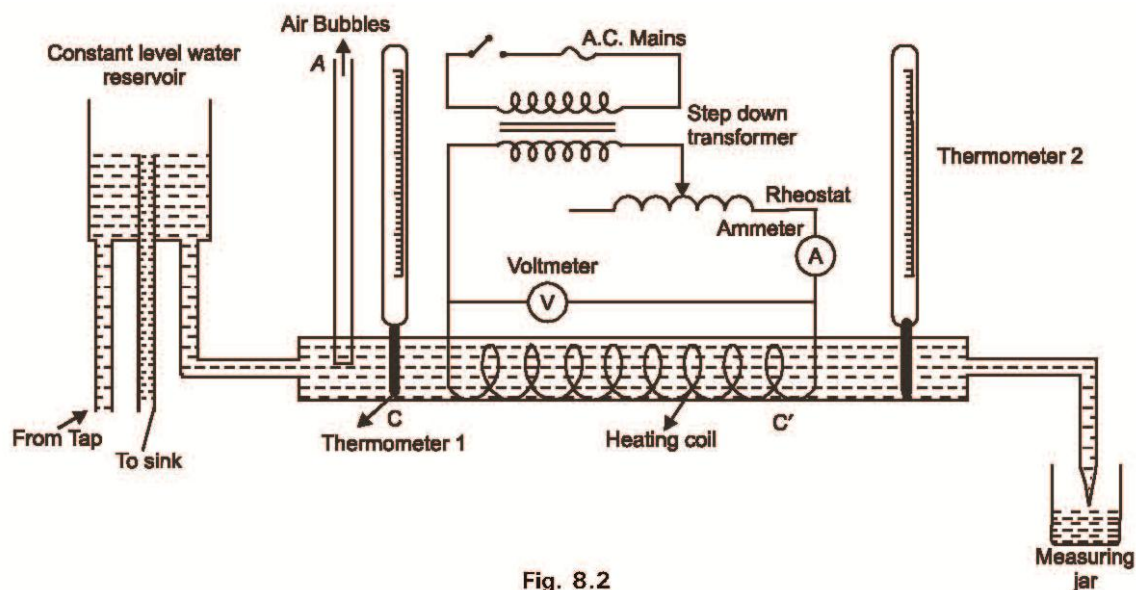

Fig. 8.2
1. Connect the apparatus as shown in the Fig. 8.2.